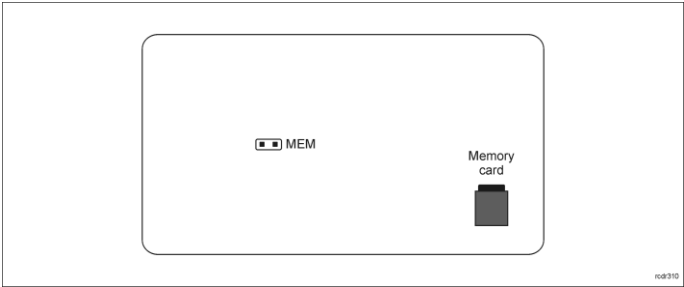

Fig. 3 Service contact and memory card
2. Remove jumper from MEM contacts (fig. 3) if it is placed there.